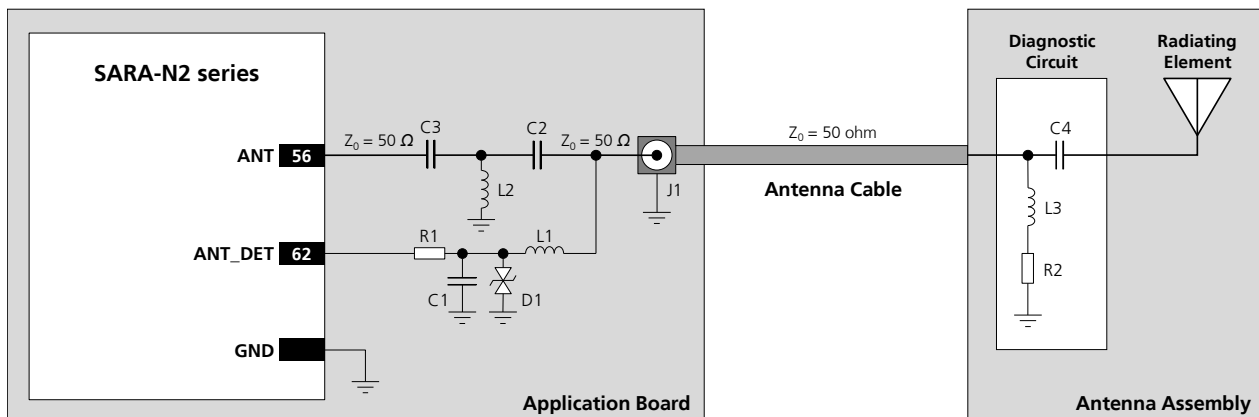

Figure 18: Suggested schematic for antenna detection circuit on application board and diagnostic circuit on antenna assembly
Figure 18 and Table 17 describe the recommended schematic and components for the antenna detection circuit to be provided on the application board for the diagnostic circuit that must be provided on the antenna assembly to achieve antenna detection functionality.
The antenna detection circuit and diagnostic circuit suggested in Figure 18 and Table 17 are here explained:
- Additional components (R1, C1 and D1 in Figure 18) are needed at the **ANT\_DET** pin as ESD protection.
- Additional high pass filter (C3 and L2 in Figure 18) is provided at the **ANT** pin as ESD immunity improvement
The DC impedance at RF port for some antennas may be a DC open (e.g. linear monopole) or a DC short to reference GND (e.g. PIFA antenna). For those antennas, without the diagnostic circuit of Figure 18, the measured DC resistance is always at the limits of the measurement range (respectively open or short), and there is no mean to distinguish between a defect on antenna path with similar characteristics (respectively: removal of linear antenna or RF cable shorted to GND for PIFA antenna).
Figure 19 describes the recommended layout for the antenna detection circuit to be provided on the application board to achieve antenna detection functionality, implementing the recommended schematic described in the previous Figure 18 and Table 17.